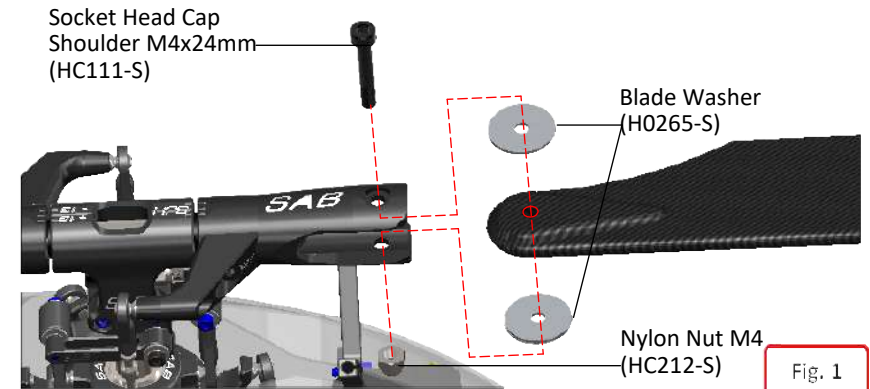

Fig. 1
- *Fit the main blades and tail blades. (Figure.1 and Figure.2)